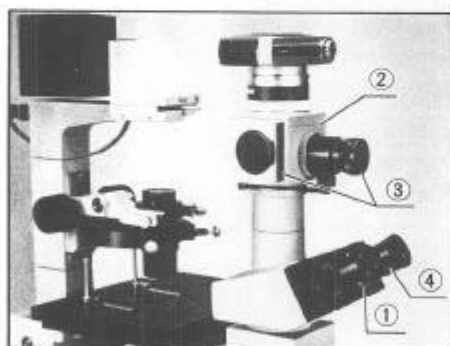

Fig. 43
In place of standard binocular tube, a trinocular tube BH2-TR ① can be attached and used for photomicrography with the PM-10AD system ②. (Fig. 43)
- ★ In case of fluorescence photomicrography, the bright frame viewer PM-VSB ③ may be used to facilitate focusing. (Fig. 43)
- ★ In order to focus on the specimen looking through the binocular tube, it is necessary to use a suitable finder eyepiece ④. (Fig. 43)